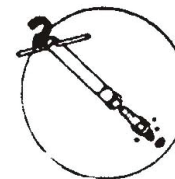

Figure 43
3.5 Re-mount the spark plug and its cap. (Figure 43)